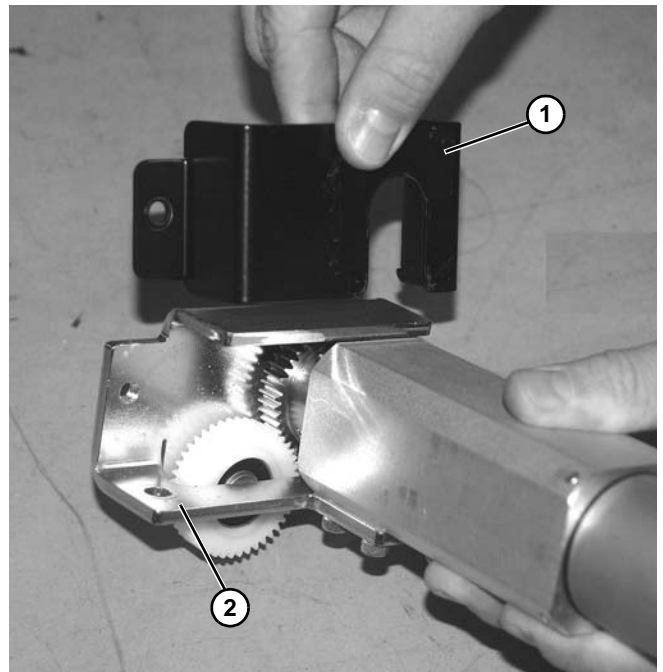

Figure 77
5. Remove the cover (**Figure 77, item 1**) from motor bracket (**Figure 77, item 2**).